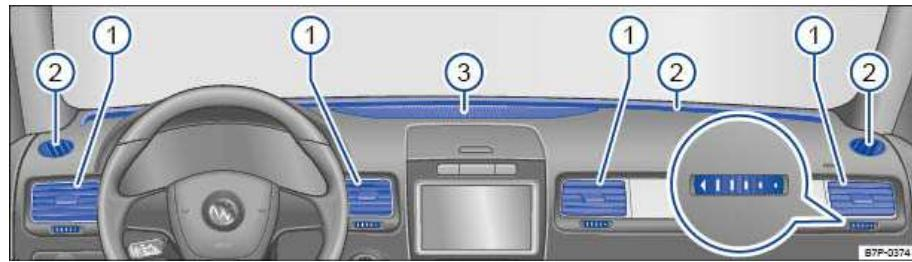

Fig. 303 Air vents in the instrument panel.
To help ensure sufficient heating, cooling and ventilation in the passenger compartment, never close the air vents => fig. 303 (1) completely.